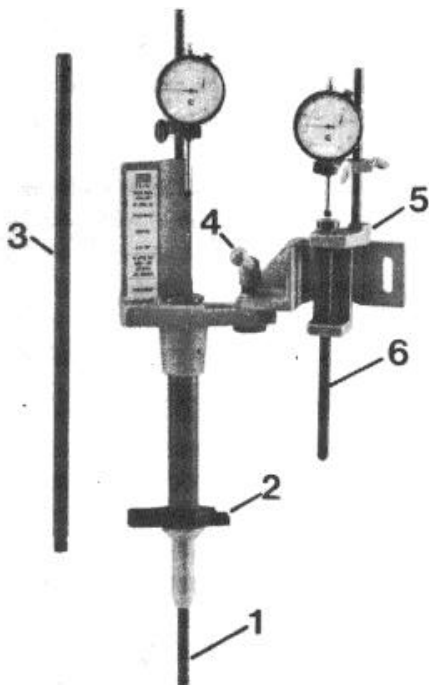

Fig. 14-31. The Part No. 3375522 Injection Timing Tool.
1. Install the support bracket for the push rod adapter (5, Fig. 14-31) into the slot nearest the clamp handle (4).
2. Install the piston plunger rod (1, Fig. 14-31) into the injector sleeve of the No. 1 cylinder. To fasten the timing tool to the cylinder head, install the adapter screws through the mounting foot (2) and into the holes for the injector holddown plate. Use the tightening rod (3) to tighten the adapter screws.
3. Loosen the clamp handle (4, Fig. 14-31) and align the push rod adapter (6) with the injector